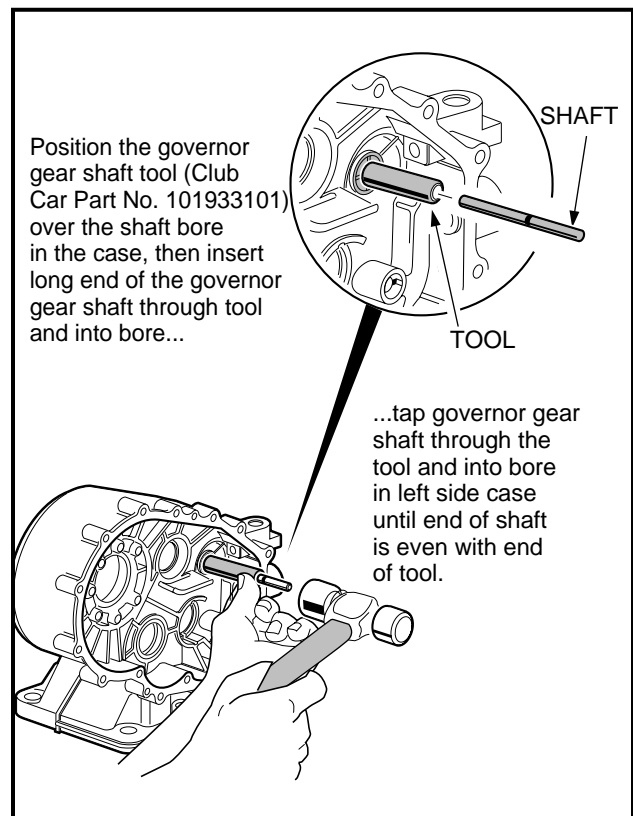

Figure 16-68 Governor Gear Shaft
3. Position the governor gear shaft installation tool (Club Car Part No. 101933101) over the shaft bore in the inside of the left (driver) side case and insert the governor gear shaft into the tool, long end (from the groove) first, as shown (**Figure 16-68, Page 16-29**). Make sure the shaft is started into the bore and then, using a plastic or rubber hammer, carefully tap the governor gear shaft into the bore until the end being tapped is flush with the end of the tool. Remove installation tool.